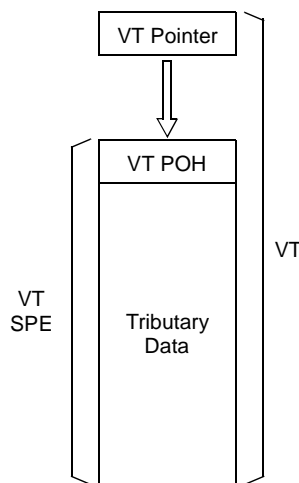

Figure 4. VTn Format
The Virtual Tributary (VT) is a structure designed for transport and switching of sub-STS-1 payloads (payloads less than DS3). As shown in Figure 4, it contains a VT Pointer, which indicates the start of the VT SPE. The VT SPE is composed of VT POH and Tributary Data (Payload). The VT Pointer provides for flexible and dynamic alignment of the VT SPE within the VT, independent of other VTs in the STS-1 SPE.